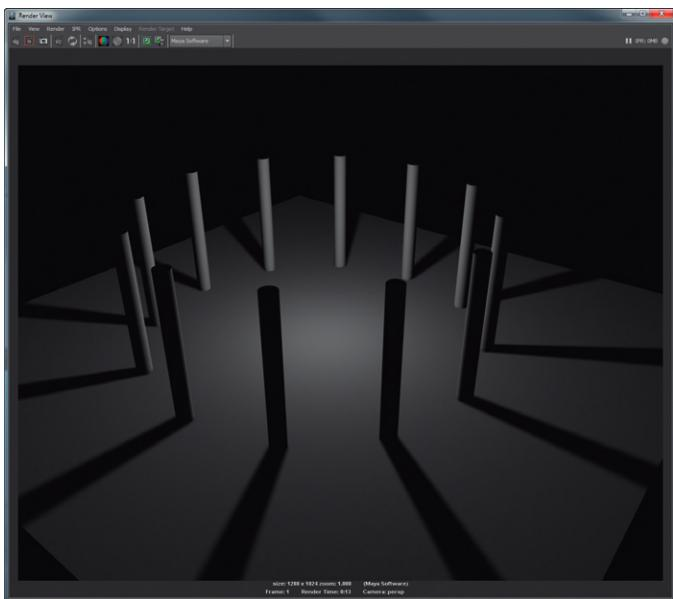

FIG 7.7 Using a Filter Size of 6 makes for much softer shadows.
Step 6: Soften the shadow maps. Do this still within the Attribute Editor. Still within the Shadows section of the Point Light, change the Filter Size to 6. Render (**Fig. 7.7**).